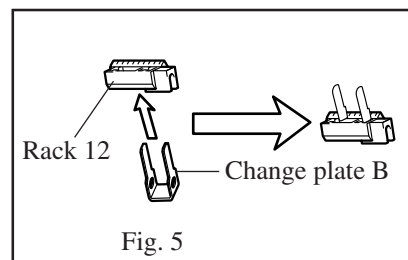

Fig. 5
2. Insert change plate B into rack 12 as illustrated Fig. 5 right.